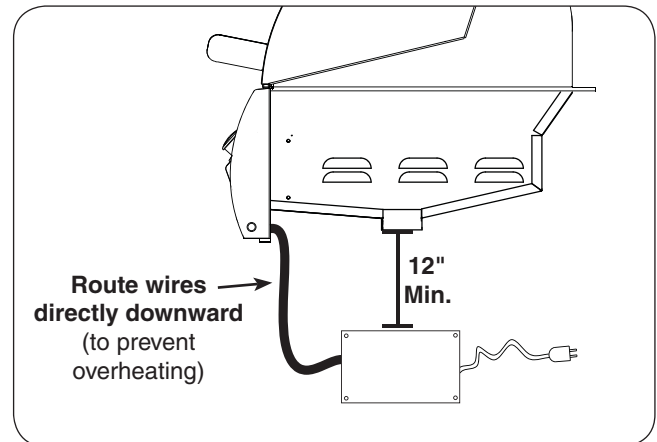

Fig. 24-3 Power supply clearance
- It **MUST** be located at least 12 inches below the bottom of the grill (see Fig. 24-3).
- The wire extension that exits from the control panel **MUST** be routed directly downward. This will prevent overheating. **DO NOT** route the wire extension below the grill (see Fig. 24-3).